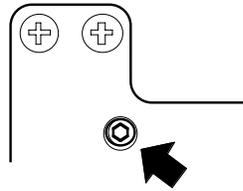

Figure 5 Pen tip/platen adjust screw (similar both sides)
15. If necessary, correct the gap, by releasing the two cap-head screws (figure 5) (M2.5 Allen key - 2 mm across flats) and adjusting the position of the guide bar.